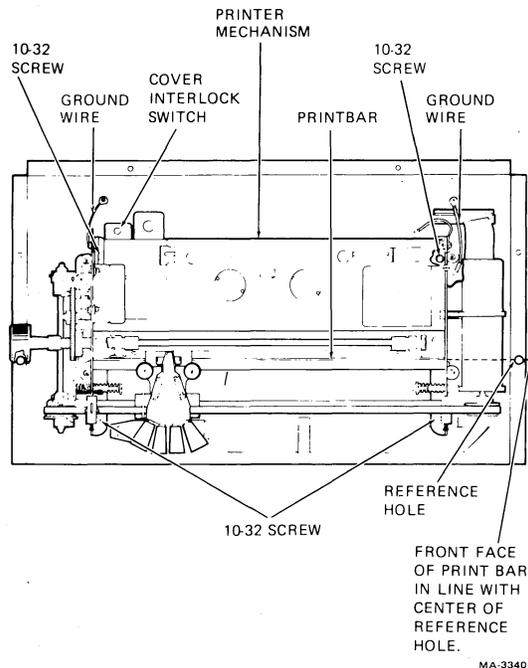

Fig. 32-Printer Mechanism Alignment
- (d) Loosen the four (10-32) screws that secure the printer mechanism to the teleprinter base (Figure 32).
- (e) Adjust the position of the printer mechanism (front to back) so that the front surface of the print bar is in line with the centerline of the reference holes in the cabinet (Figure 32) within 0:030 inch. Tighten the four (10-32) screws.